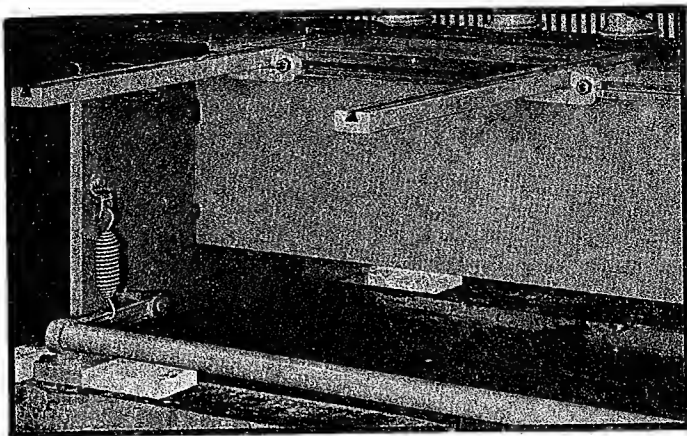
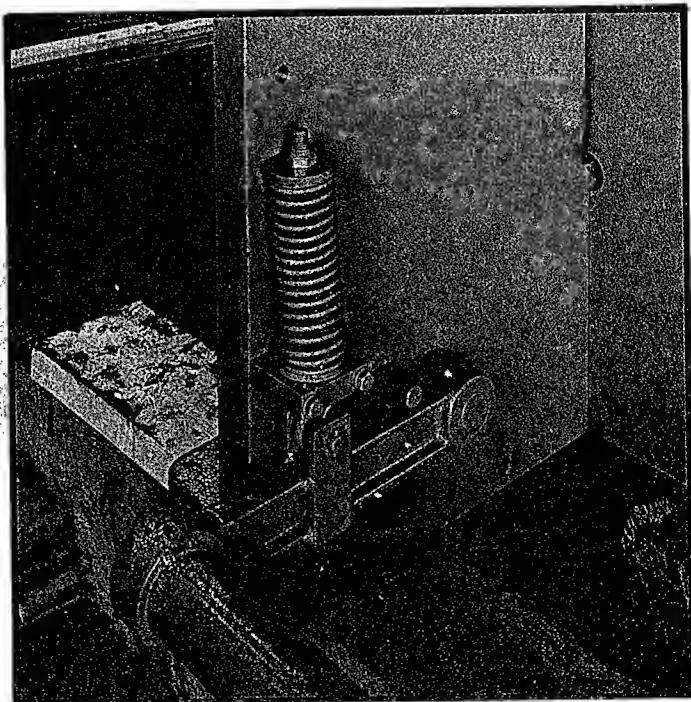

FIGURE 108
FIGURE 109
3. A weak spring for returning the treadle. The hook can be fastened to the housing at a higher point to increase the tension on the extension spring. See Figure 108. The preload on the compression type spring can be increased by turning nut on stop spring retainer. See Figure 109.